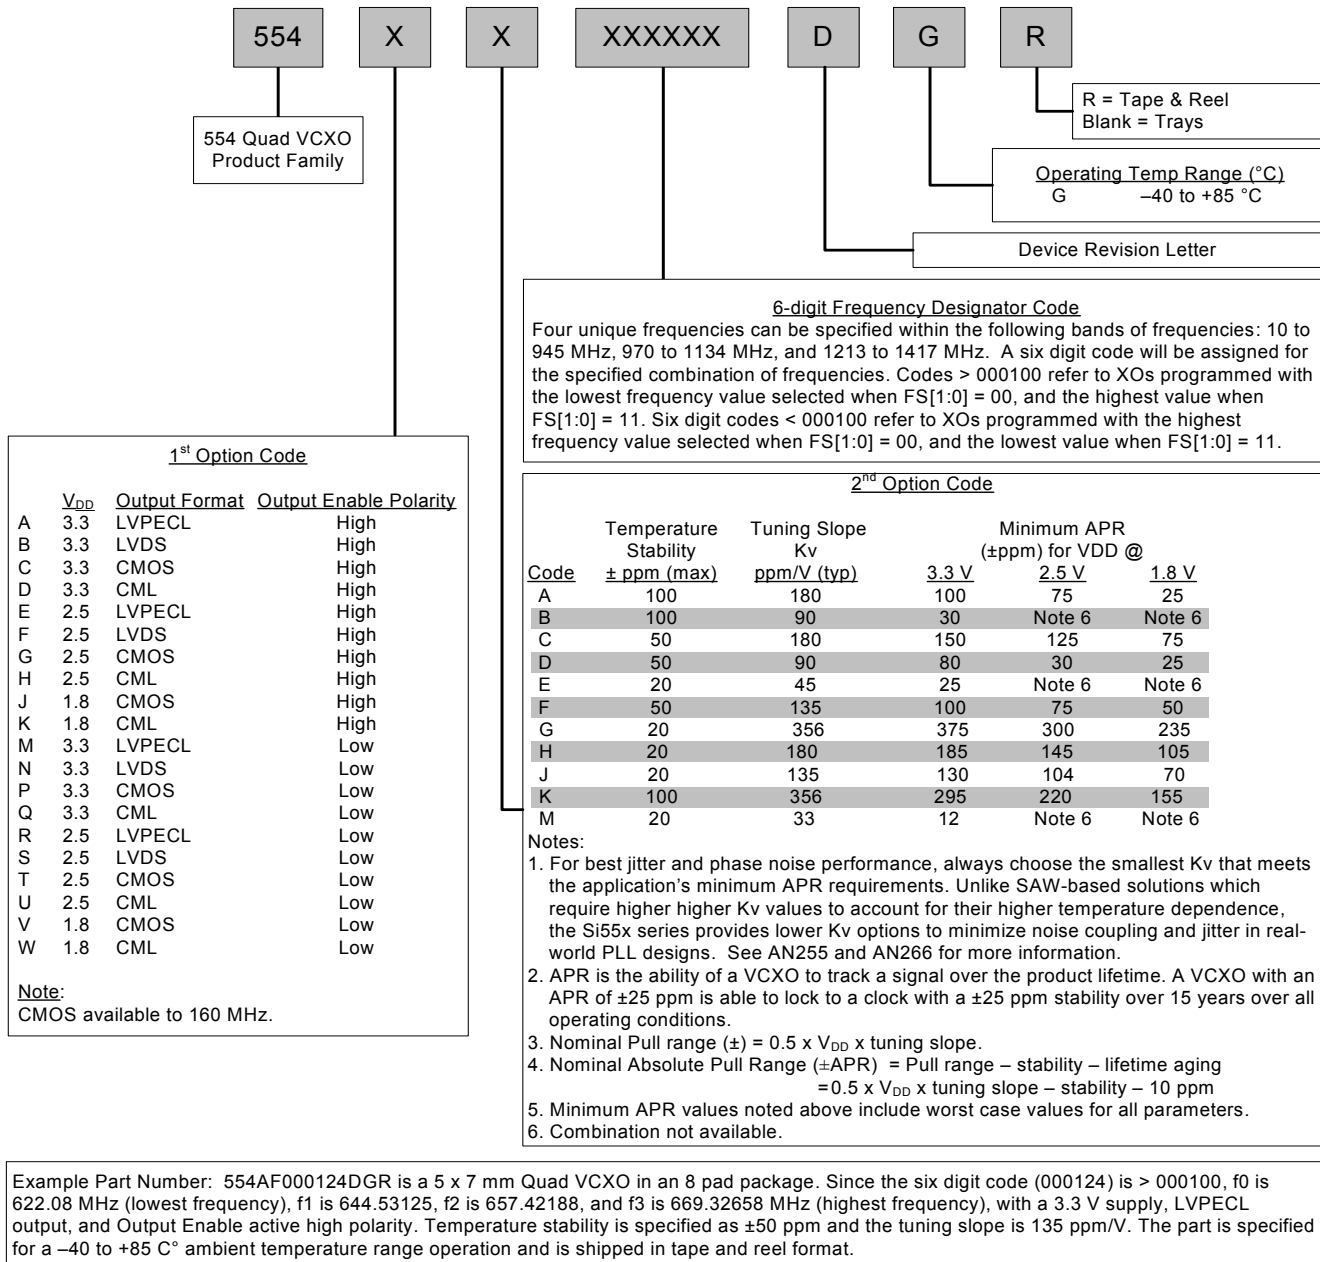

Figure 1. Part Number Convention
- Added Output Enable active polarity as an option in Figure 1, “Part Number Convention,” on page 8.
- Updated Figure 1, “Part Number Convention,” on page 8.